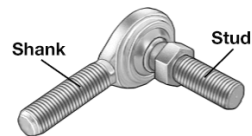

Figure 21
- 40 Locate ONE 3/8-24 nut and thread it on the male shank end of the 3/8 – 24 TIE ROD shown in *(figure 21)*